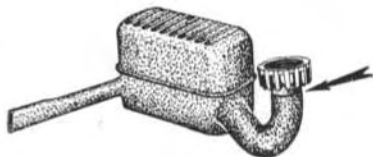

Fig. 114 - Replacement of threaded ring of silencer.
- Saw the pipe near the threaded ring as shown in Fig. 114.